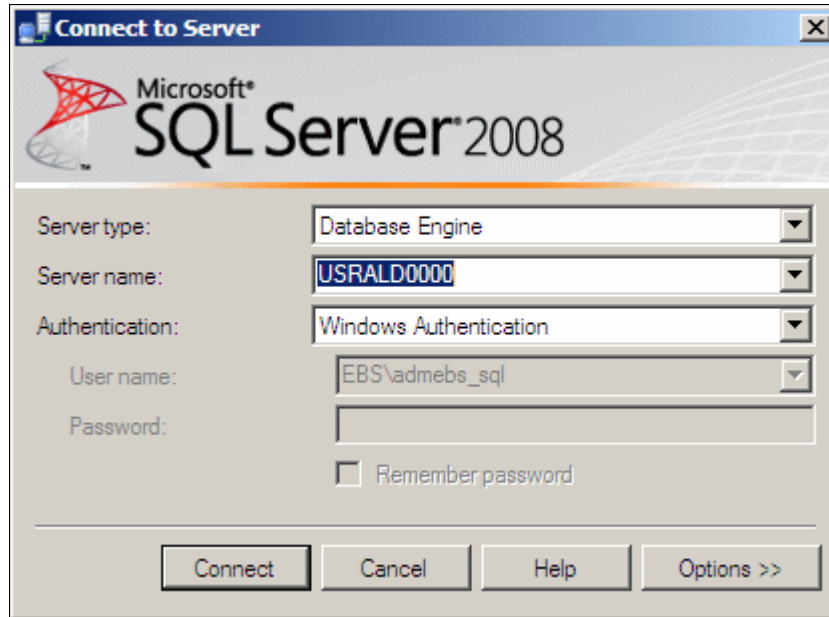

Figure 6-34 SQL logon on window
1. Access the database by navigating to **Start** → **Programs** → **Microsoft SQL Server 2008** → **SQL Server Management Studio**. The “Connect to Server” dialog box (Figure 6-34) displays. Enter the correct Database Server name and the SQL administrator account specified during the installation. In our example, the server is called USRALD0000. We opted for the server administrator account to be the database administrator account as well. Click **Connect**.